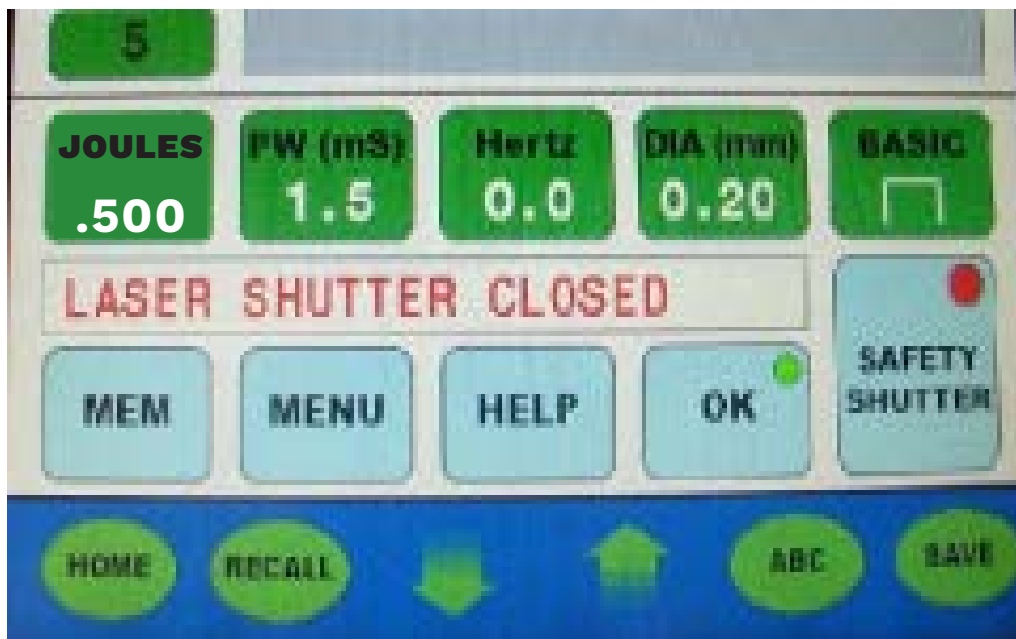

Figure 1
1. Press the **menu button** on the main screen (**figure 1**).
While password protection is enabled, the selectable options on the touchscreen display are restricted; the following buttons remain active (figure 1).
5. Press the **menu button** on the password screen to enter the password and return to the main screen (**figure 1**); password protection is disabled.